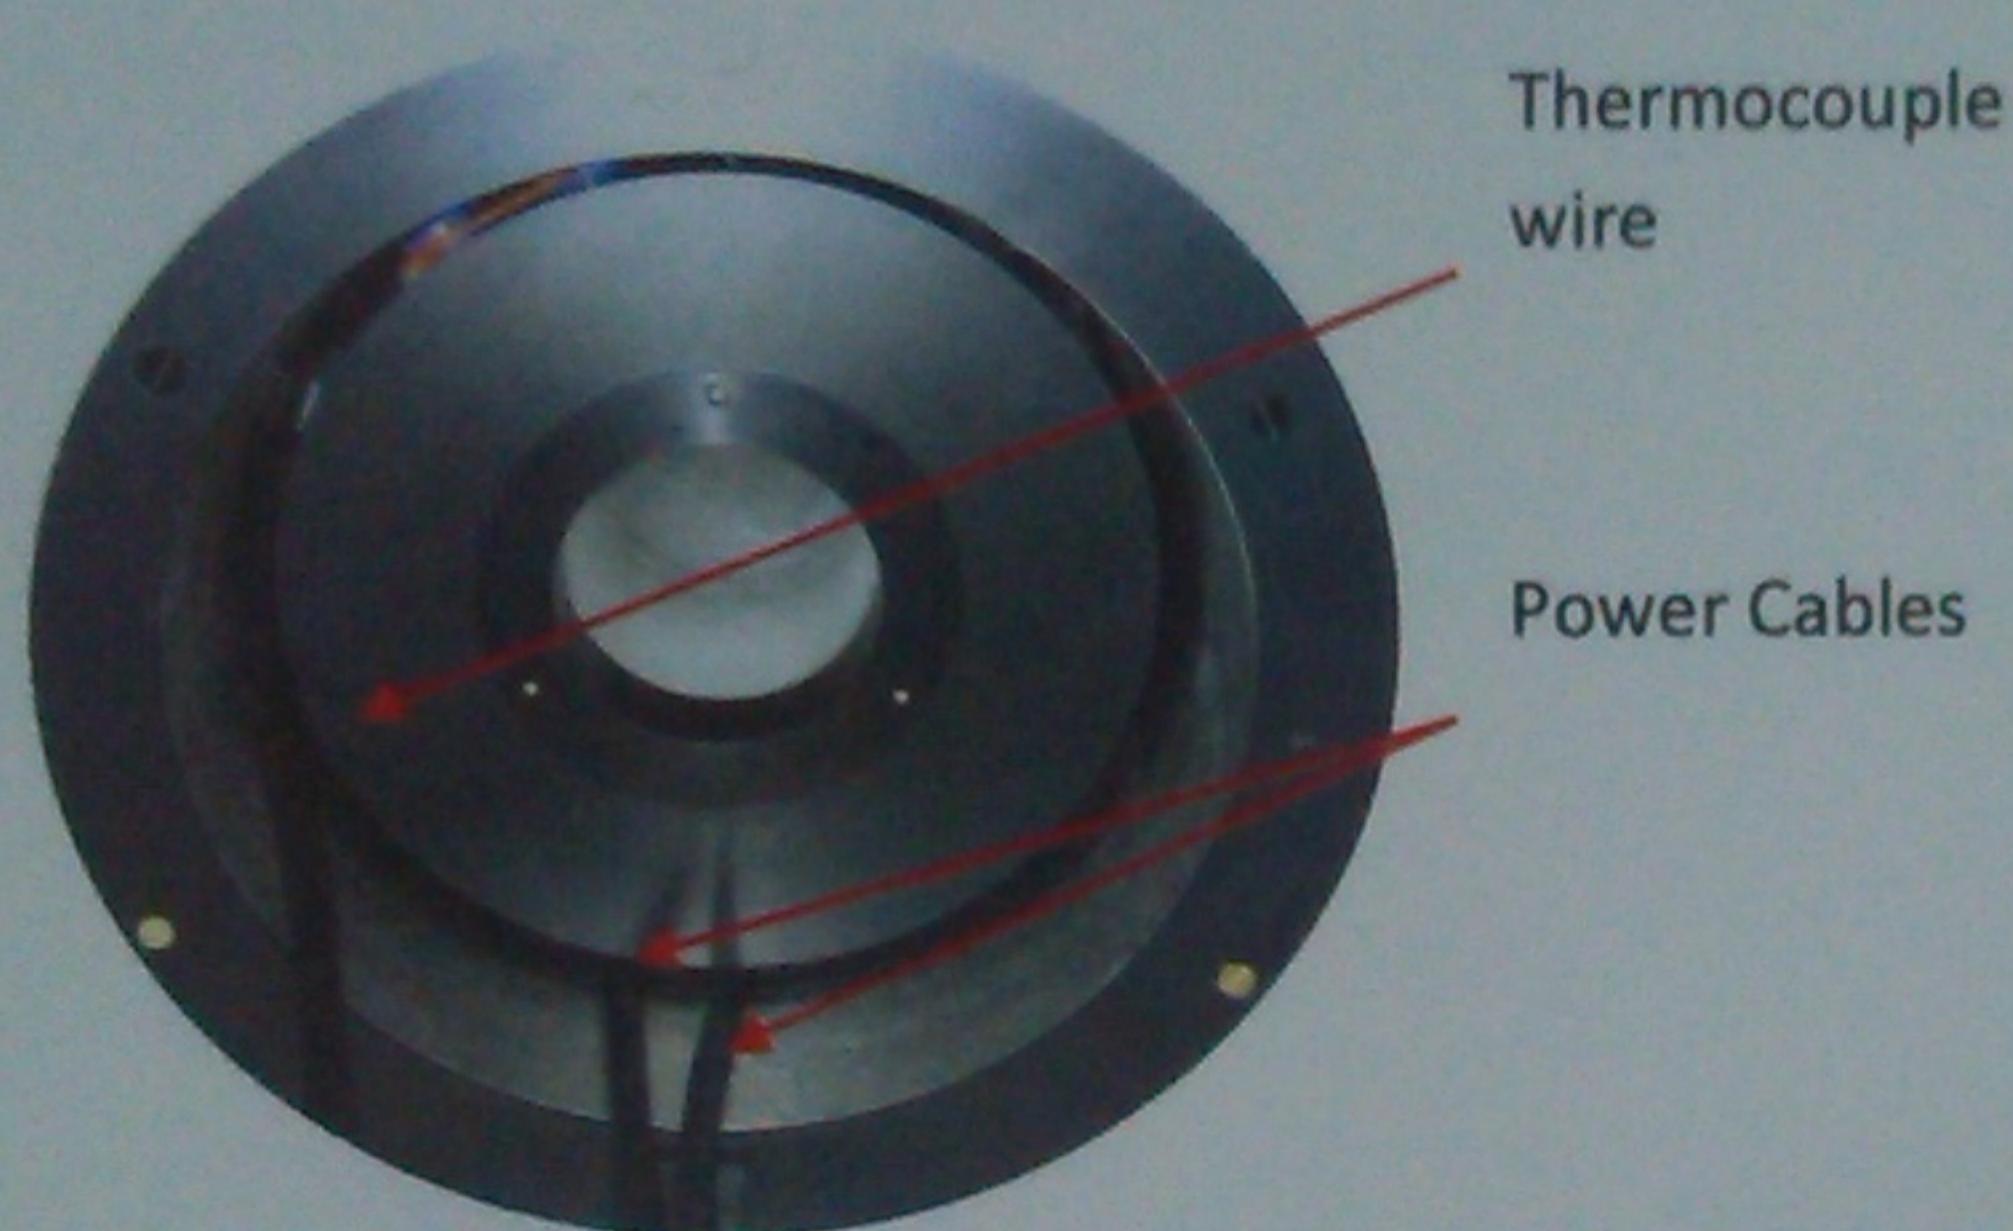

Figure 5
4. With two people, carry the oven and control electronics over to the shield assembly and insert the oven into the shield, positioning it as per figure 5 below. Be careful that the oven wall spacers do not catch on the shield during insertion. Push the oven in until it mates with the inner end of the cooling duct (approximately 7cm from the edge of the shield).